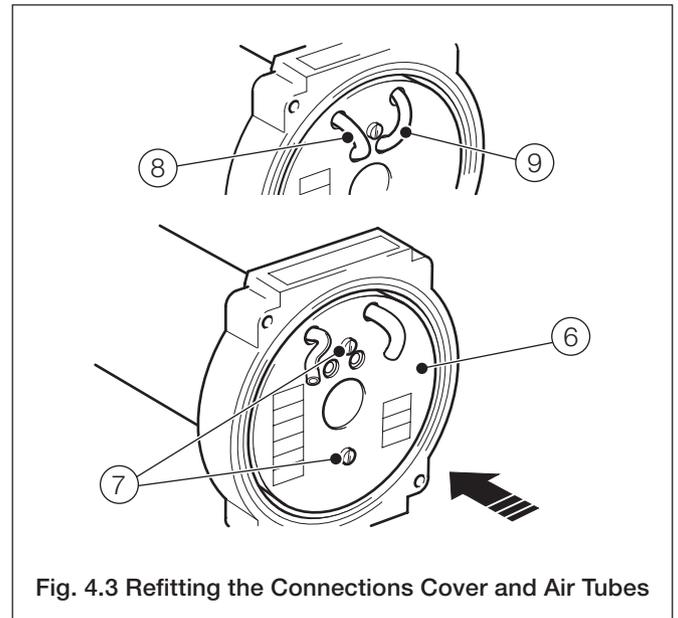

Fig. 4.3 Refitting the Connections Cover and Air Tubes
4.2.2 Probe Connections – Figs. 4.2 and Fig. 4.3
...4.2.2 Probe Connections – Figs. 4.2 and Fig. 4.3
Referring to Fig. 4.3: